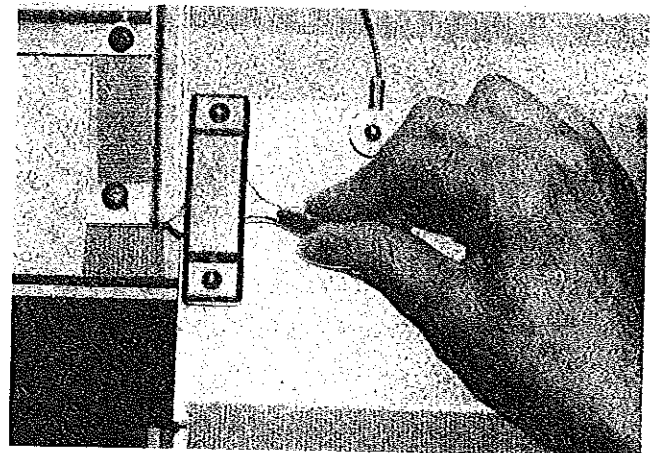

FIGURE 24
28. Rotate the hinged top door plate to vertical position and lock in place with the two screen door sash locks. See Figure 24.